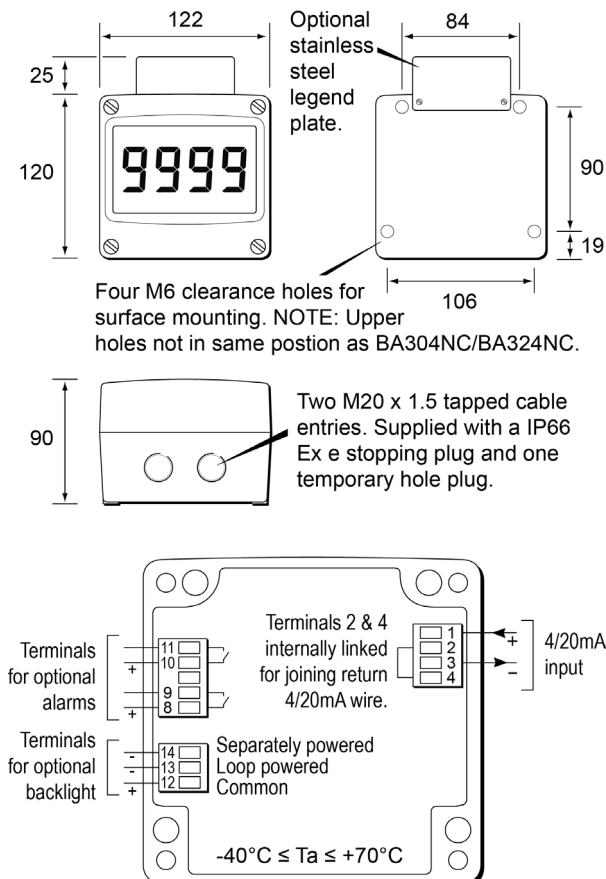

Fig 5 Dimensions and terminal connections
Field wiring terminals are located on the rear of the indicator assembly as shown in Fig 5. If the field wiring is to be terminated prior to the installation of the indicator assembly, a back-box terminal assembly, which includes a 4/20mA continuity diode and additional terminals for linking cable screens is available as an option. See section 9.5 of this manual.
- D. Connect the field wiring to the terminals as shown in Fig 5. Replace the instrument assembly on the back-box and evenly tighten the four 'A' screws.